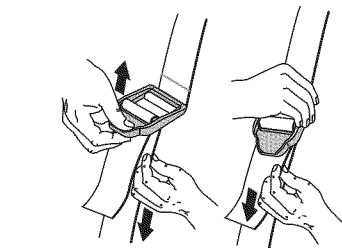

Fig. 13
4. Adjust length to fit the operator's size. Pull tab to lengthen, pull strap to shorten (Fig 13).